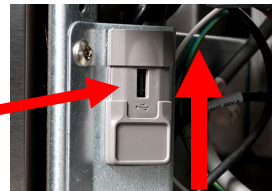

Figure 1
2. **INSERT USB.** The USB port is located inside the far-left cabinet, on the left-hand side. Slide the cover up to reveal the USB port (see Figure 1).